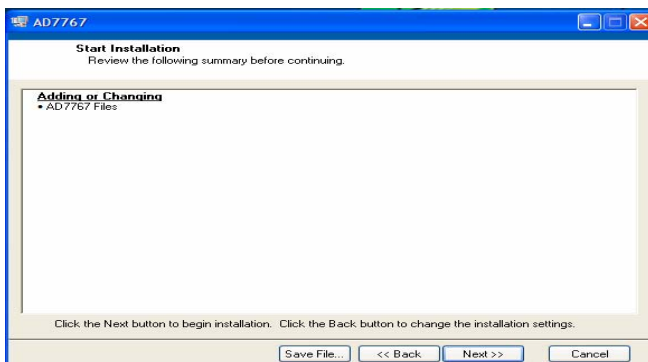

Figure 5. AD7766/-1/-2 Install actions
- 4) To start the installation, click the “Next” button as shown in Figure 5. This window details the actions of the installation.